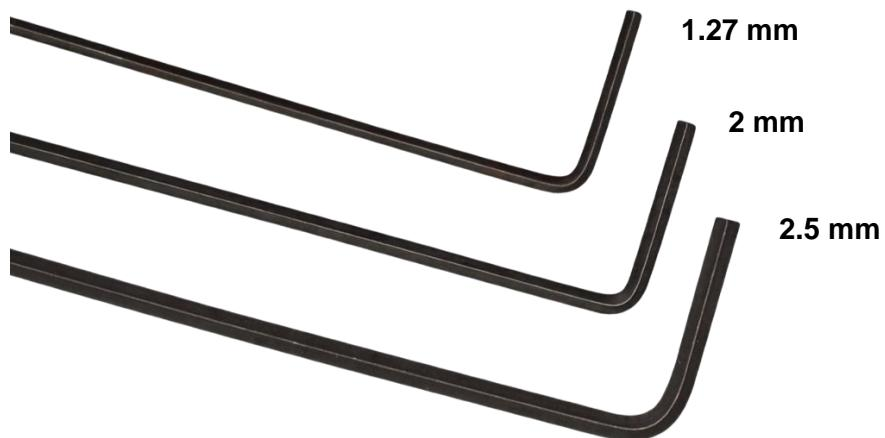

Figure 1. Hex Keys Included with Mosquito™
1. Locate the 1.27 mm hex key (the smallest one) that was included in the Mosquito™ packaging (see Figure 1). Additional wrenches can be purchased as part of the **Hex Keys for Mosquito™** pack on www.sliceengineering.com